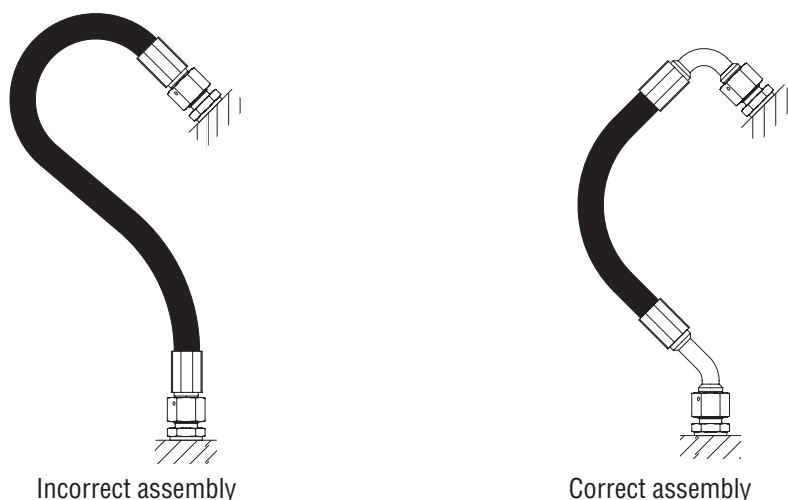

Fig. 5
5. Use suitable fittings to avoid any undesired additional stress to the flexible hose (Fig.5).